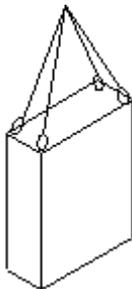

Fig. 8
- 1.** → Attach ropes, belts or multiple-point suspension gear as per Fig. 8.